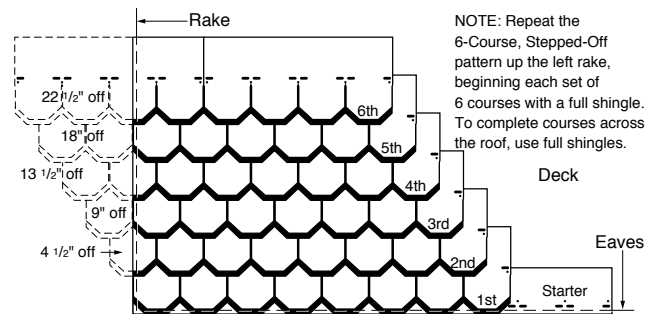

Figure 19-15: Four-and One-Half Off, Six Up (Carriage House).
2. Locate fasteners in starter strip about 1 1/2" up from the bottom edge, so they are centered under the first-course tabs. Continue with full 10" by 36" lengths along the eaves (Figure 19-15).
1ST COURSE: Apply a full shingle at the lower left corner of the roof, tabs flush with starter course (Figure 19-15).